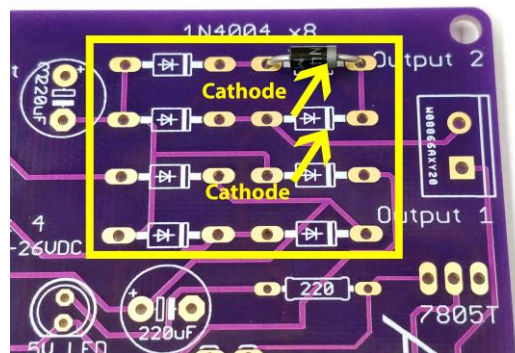

Figure S5
8. Solder Diodes with white marker matching with silver band. *(see figure S5)*